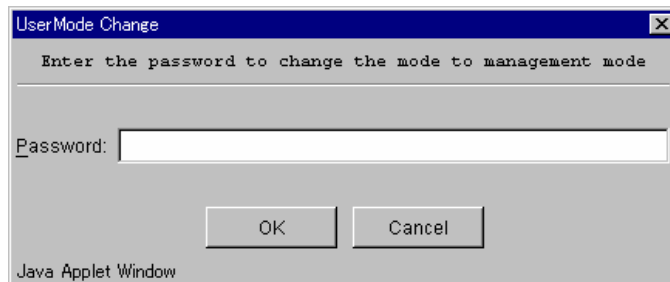

Figure 4.6 User Mode Change
2. When the password-input screen displays, enter a password and click **OK**. See Figure 4.6.